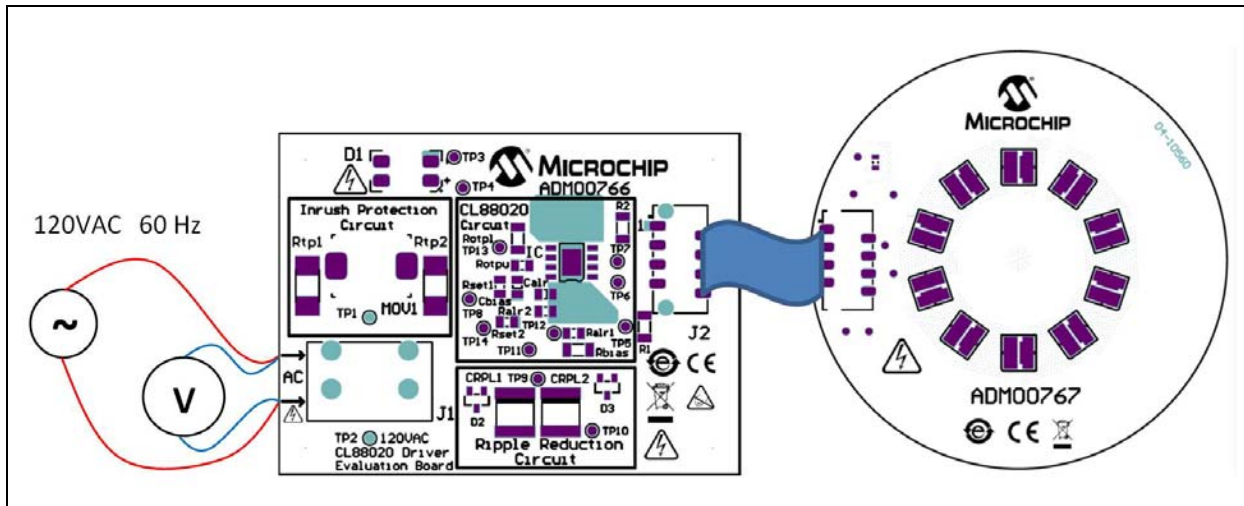

FIGURE 2-1: Connection Diagram.
Figure 2-1 illustrates the connection between ADM00766 and ADM00767.
1. Connect the input AC source and the output LED Load as shown in Figure 2-1.